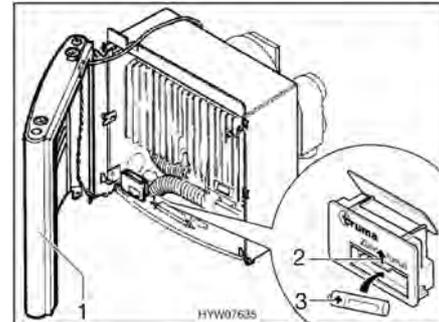

Fig. 118 Heater opened
- Turn the cover (Fig. 118,1) to the side, so that the connecting cables for the hot-air fan as well as the ignition control lamp do not need to be disconnected.
- Push battery chamber cover on the automatic ignition (Fig. 118,2) upward.
- Insert a new battery (Fig. 118,3) of the same type, correctly aligned (+/-), into the battery chamber of the automatic ignition. Only use temperature resistant (+70 °C) and leak-proof Mignon batteries.